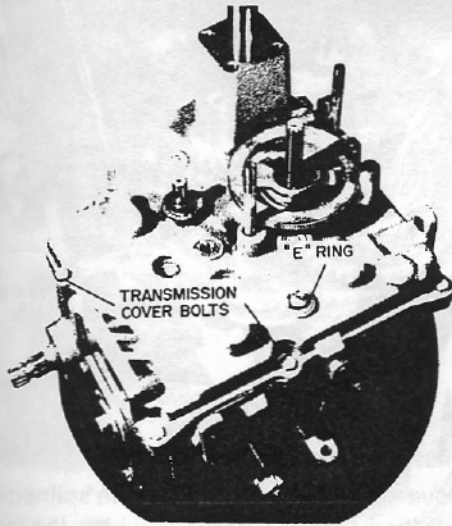

Figure 7
10. Remove the "E" ring shown in fig. 7. Remove the bolts securing the transmission cover to transmission case and lift the cover from the case. If difficulty is experienced in removing the cover, tap the protruding nafts with a soft hammer.